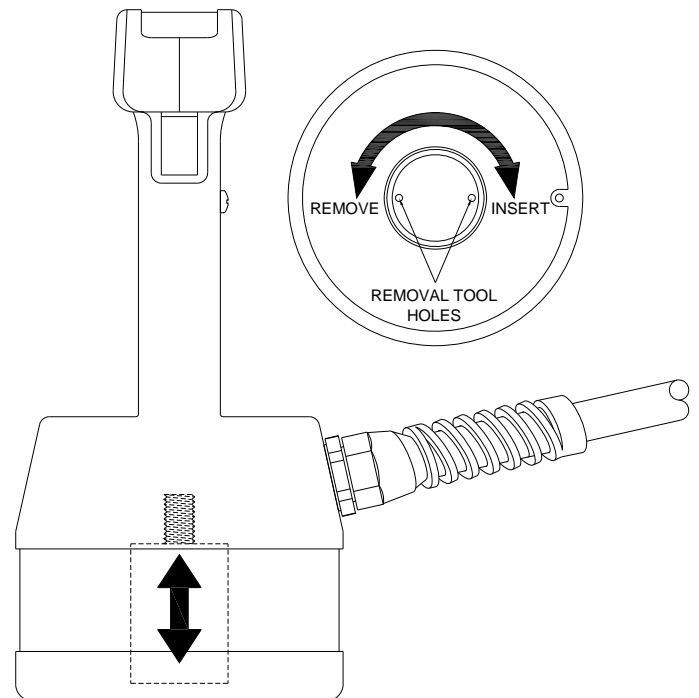

Figure 8
includes an adapter ring for mounting the standard size centering rings, and an additional centering ring for caps with an O.D. up to 125mm. The standard sealing head has an additional insert that can be removed resulting in an opening that can be used for standard or deep caps with an O.D. of 30mm or smaller (**Figure 8**).
*This is the opening built into the bottom of the Standard Sealing Head for the insert (**Figure 8**).
For tall closures, with a maximum O.D. of 30mm, the insert on the sealing head can be removed to allow placing the closure within the opening (**Figure 8**). Use a retaining ring removal tool or mini needle nose pliers to turn the insert. Once loose, finish unscrewing the insert by hand.